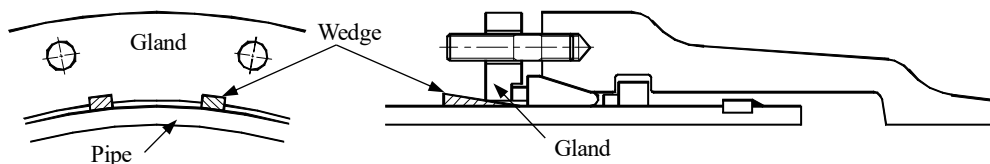

Figure-18 Centering of gland
- (1) Shift the Split Ring toward the Rubber Gasket. Ensure the split portion of the Split Ring is located at the bottom center of the joint.
- (2) Shift the gland toward the bell. Align the bolt holes of the gland and the bolt holes on the bell end. Center the gland with wedges placed between the gland and the spigot at the pipe top. (See Figure-18.) Fasten several nuts by hand to adjust the gland to a snug position. Never damage the threads of the stud bolts during this step.